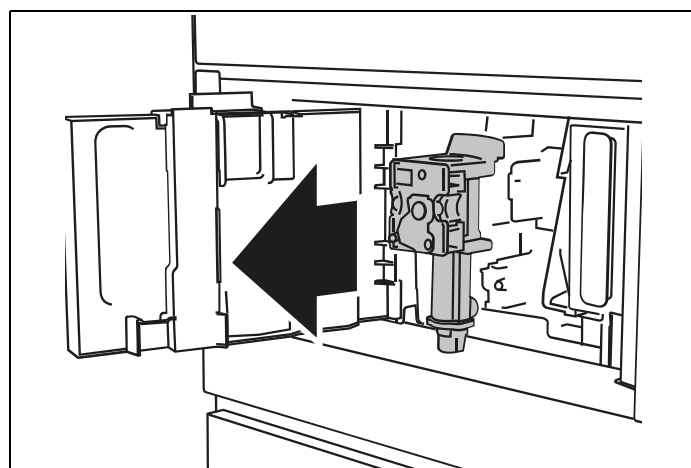

Fig. 48
- 4) Press the two coloured release buttons inwards and at the same time pull the infuser outwards (Fig. 48).